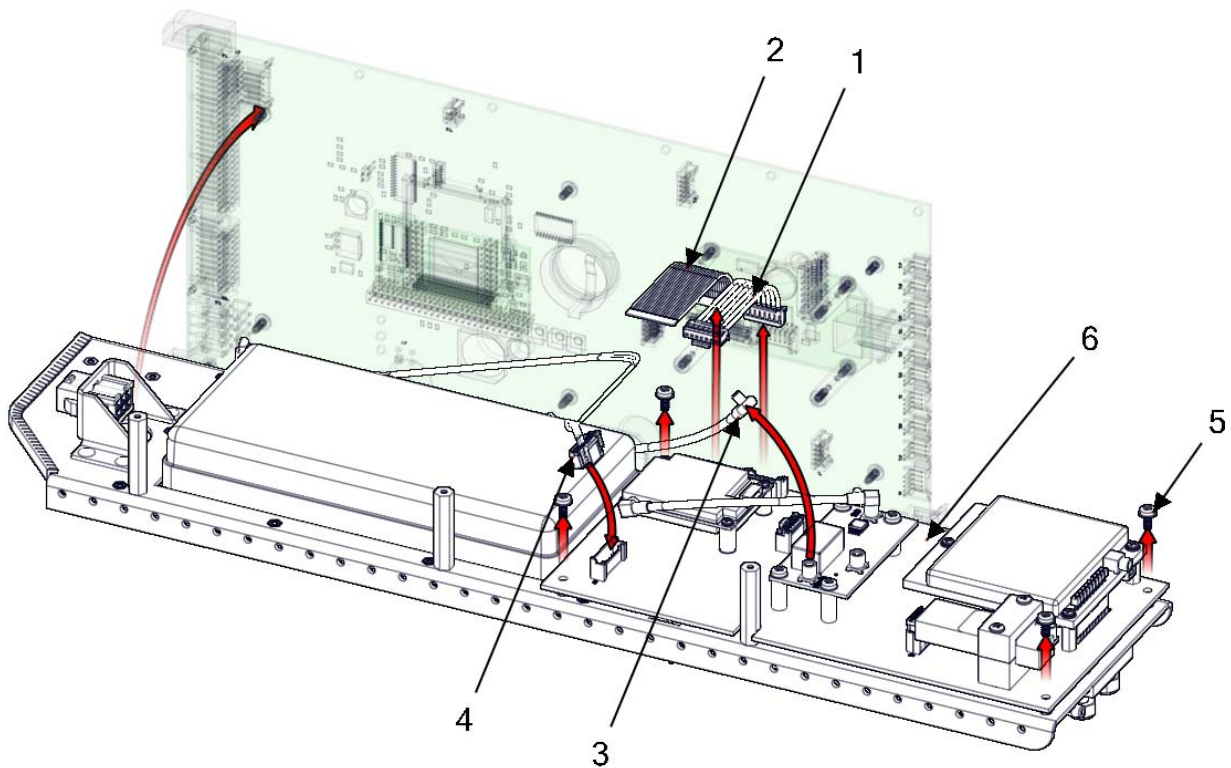

Figure 2-29 Communications board assembly.
1. Disconnect the communications board power cable (Figure 2-29, Item 1).
2. Disconnect the flex ribbon cable (Figure 2-29, Item 2).
3. Disconnect the Iridium to LNA cable (Figure 2-29, Item 3).
4. Disconnect the Iridium cable (Figure 2-29, Item 4).
5. Remove the screws (Figure 2-29, Item 5) from the communications board assembly (Figure 2-29, Item 6).
1. Install the screws (Figure 2-29, Item 5) to the communications board assembly (Figure 2-29, Item 6).
2. Connect the Iridium cable (Figure 2-29, Item 4).
3. Connect the Iridium to LNA cable (Figure 2-29, Item 3).
4. Connect the flex ribbon cable (Figure 2-29, Item 2).
5. Connect the communications board power cable (Figure 2-29, Item 1).